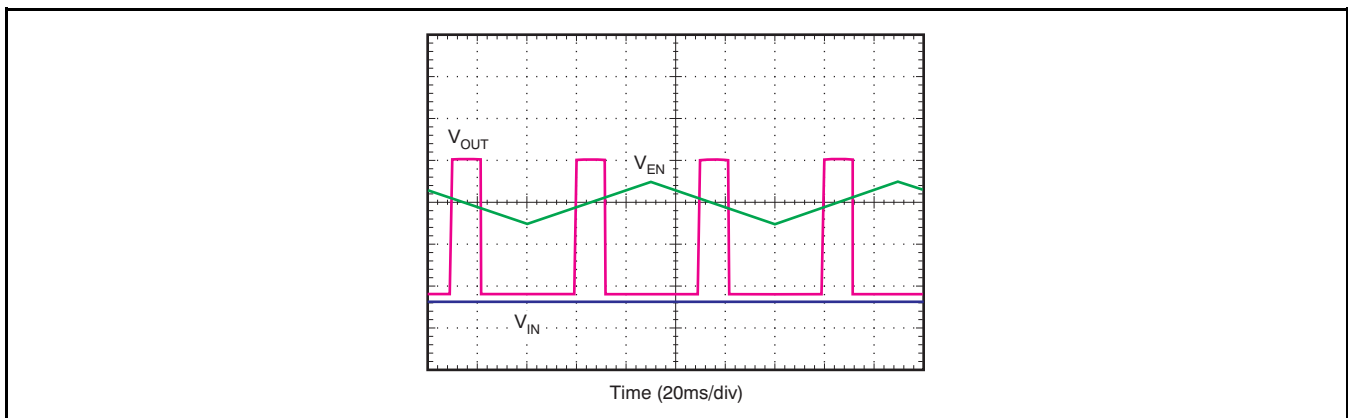

Figure 31. Enable Pin Positive/Negative Threshold
The TPS7A3001 provides a dual polarity enable pin (EN) that turns on the regulator when  $|V_{\text{EN}}| > 2.0\text{V}$ , whether the voltage is positive or negative, as shown in Figure 31.